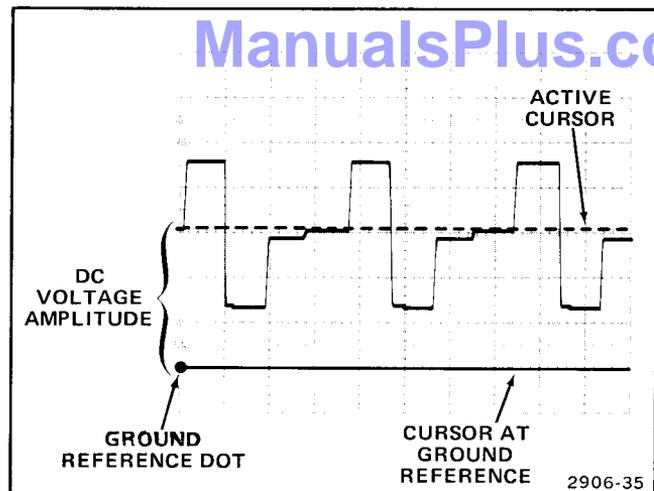

Figure 18. Instantaneous dc voltage, cursor method.
8. Use the CURSOR control knob to move the dashed VOLTS cursor to the point of interest on the waveform (see Figure 18). Read the instantaneous dc voltage from the four-digit LED display. If the dashed cursor is above the